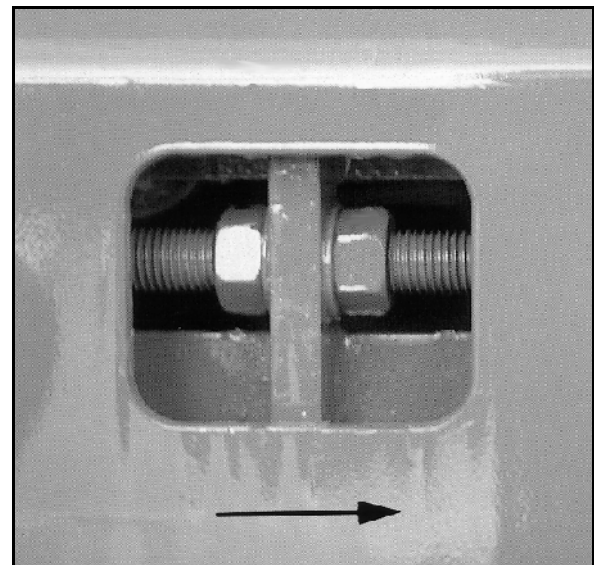

Fig. 80
1. Loosen the rear lock nuts on both sides when viewed in the direction of travel (see arrow) (Fig. 80/1) by turning them anti-clockwise.
2. Turn the nuts on both sides evenly to the left when viewed in the direction of travel (see arrow) (Fig. 80/2).
The adjustment travel of the nuts (Fig. 80/2) must be equal on both sides of the floor belt. Do not turn either nut (Fig. 80/2) more than a ½ spanner turn. Tighten the lock nuts and check whether the belt conveyor is driven evenly again.